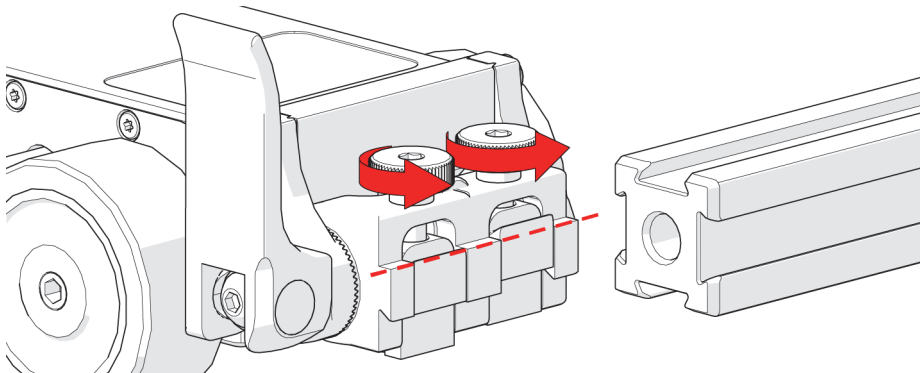

Figure 2-7 Loosen the dovetail
1. Loosen the dovetail jaws to align with the frame bar (see Figure 2-7 on page 42).